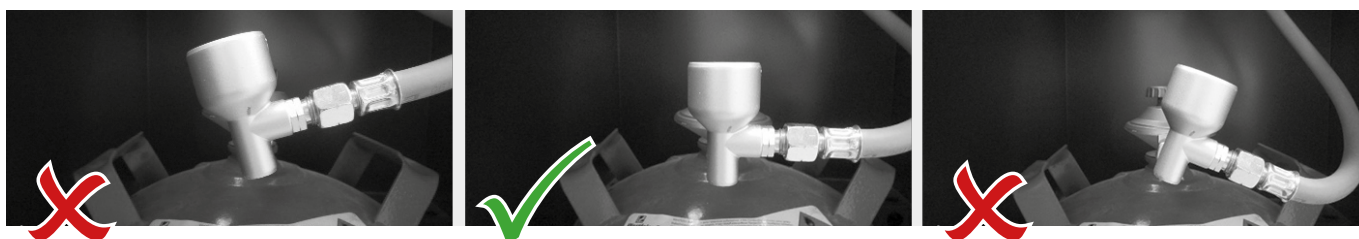

Fig. 3
4. In order for the gas to be able to flow to the burner, the tip-protection (Fig. 3) has to be aligned horizontally.